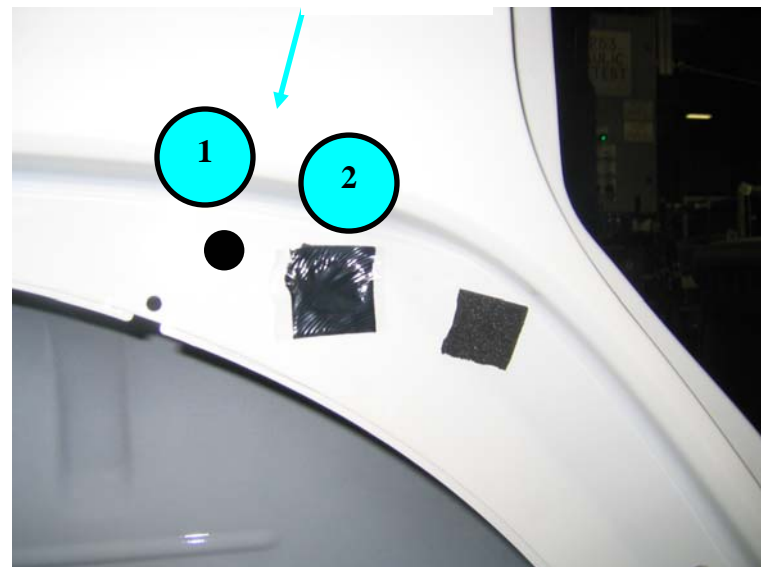

Figure 43
- Inspect the body for missing or misaligned tape over the hole as seen in Figure 43